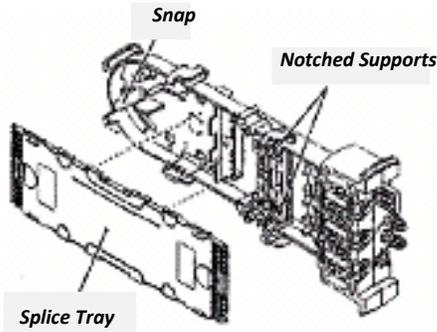

Figure 11a – Storing Fiber Trays
15.01 The center section is provided with 'L' shaped supports and a snap to retain the bottom splice tray. Additional trays are secured by a hook and loop strap provided with the closure. See **Figure 11a**.